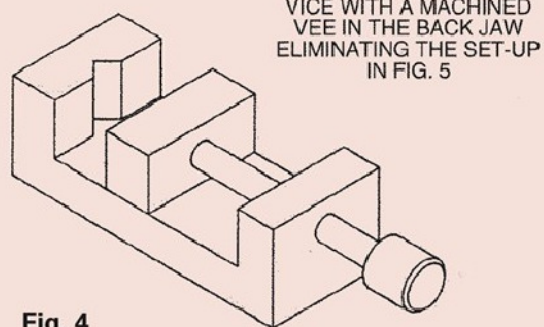

Fig. 4
If the beginner is not yet the proud owner of a centre lathe, then item 4 can easily be drilled on the workshop drill. If the material has not been cut off on a power saw, then the ends might not be square, in which case treat yourself to an exercise in filing. Once they are ok, then the item can be positioned on parallels in the drill vice. As an aside, for items having off square ends, you might use a drill vice with a machined "V" in the back jaw of the vice see **Fig 4**. Alternatively, depending on the type of vice, the component could be clamped or held as depicted in the illustration of **Fig 5**. Before setting up in the drill vice, we need to mark off the centre for the tapped hole. The best way to do this is to use the centre square (ref MEW iss. 99 p.14). Scribe several lines across the end face of Item 4 to locate the centre, then drill through 8.5mm dia. and tap through M10.